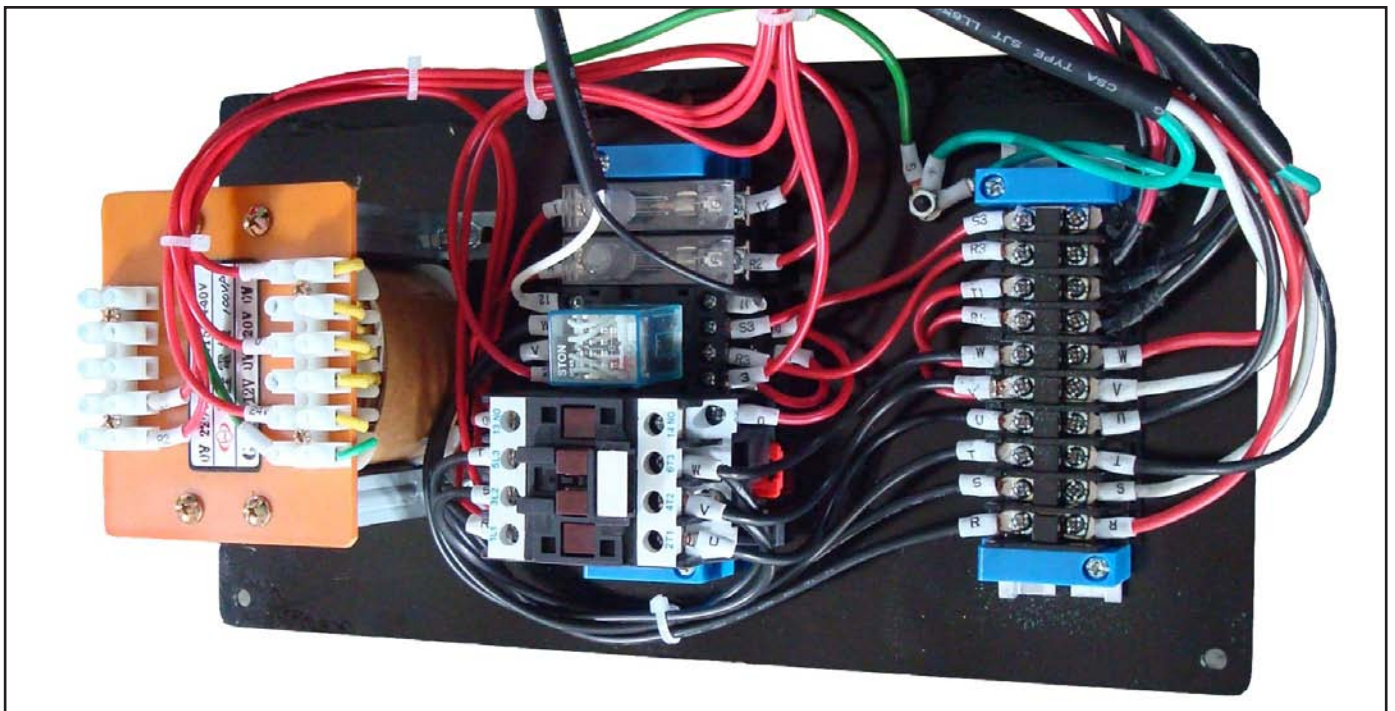

Figure 57. Main electrical wiring (see wiring diagram on **Page 42**).
(see **Figure 57** on **Page 44**, Wiring Diagram on **Page 42**)
- Main electrical wiring image (**Page 44, Figure 57**).